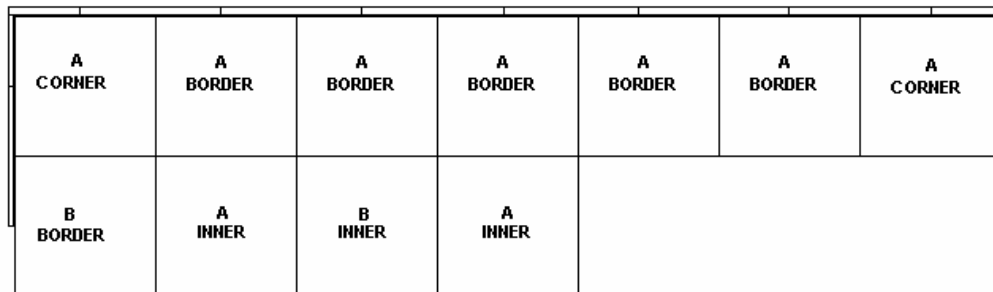

Figure 16
17. Continue installing "A INNERS" and "B INNERS" until you get to the last column (Figure 16, 17, 18).